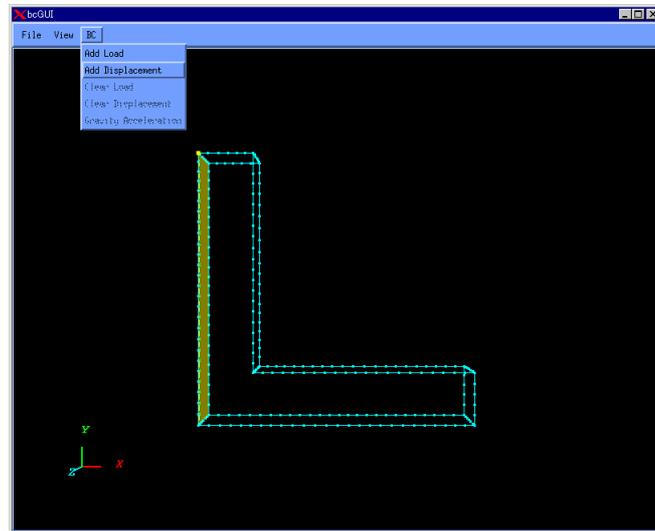
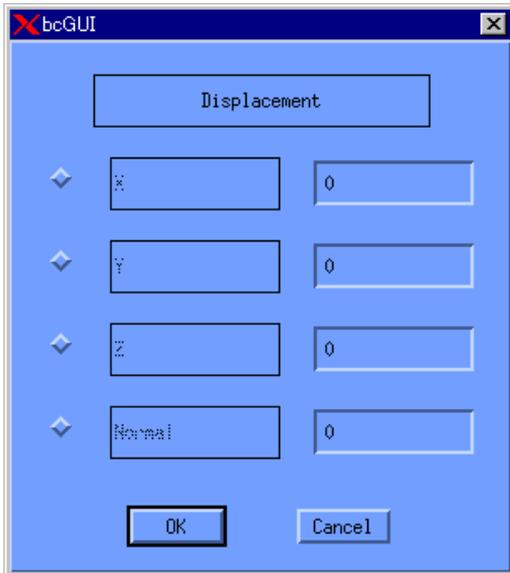

Fig. 6. Menu for Boundary Conditions Setup
Fig. 7. Dialog for Displacement Boundary Conditions
- Select the menu *Add Load* or *Add Displacement* from the main menu *BC* (Fig. 6). The dialog shown in Fig. 7 will appear on the screen.